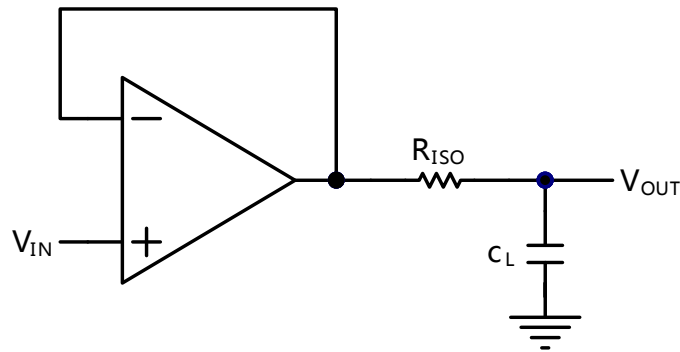
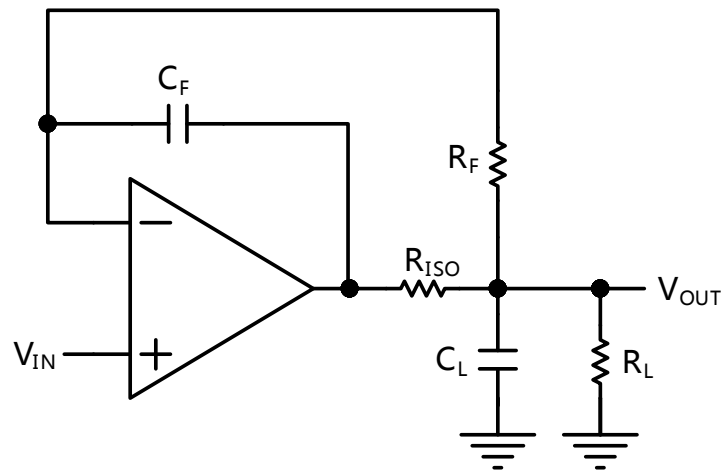

Figure 2. Indirectly Driving a Capacitive Load Using Isolation Resistor
Figure 3. Indirectly Driving a Capacitive Load with DC Accuracy
The CBM805X family is optimized for bandwidth and speed, not for driving capacitive loads. Output capacitance will create a pole in the amplifier's feedback path, leading to excessive peaking and potential oscillation. If dealing with load capacitance is a requirement of the application, the two strategies to consider are (1) using a small resistor in series with the amplifier's output and the load capacitance and (2) reducing the bandwidth of the amplifier's feedback loop by increasing the overall noise gain. Figure 2. shows a unity gain follower using the series resistor strategy. The resistor isolates the output from the capacitance and, more importantly, creates a zero in the feedback path that compensates for the pole created by the output capacitance.
The circuit in Figure 3 is an improvement to the one in Figure 2. R_F provides the DC accuracy by feed-forward the V_{IN} to R_L . C_F and R_{ISO} serve to counteract the loss of phase margin by feeding the high frequency component of the output signal back to the amplifier's inverting input, thereby preserving the phase margin in the overall feedback loop. Capacitive drive can be increased by increasing the value of C_F . This in turn will slow down the pulse response.